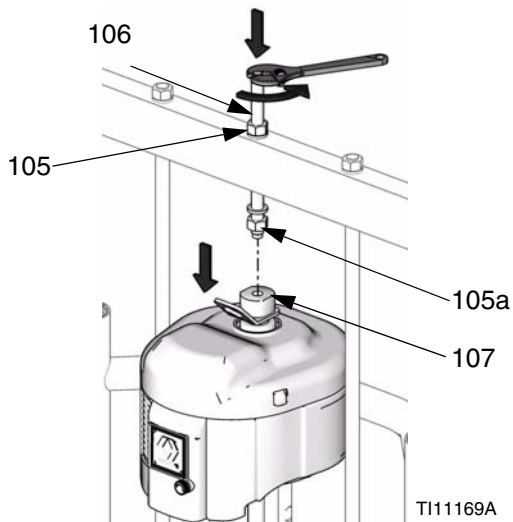

FIG. 24
- a. For NXT with 55 gallon platen (D200 3 in. and D200s 6.5 in. supply units): Loosen nut (105a) below crossbar. Use wrench to hold lift ring adapter (107) in place and loosen threaded rod (106) above crossbar with another wrench. See FIG. 24.